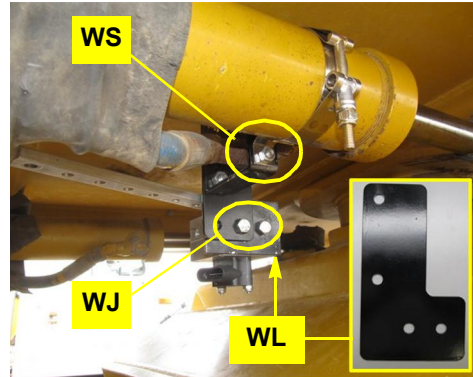

Figure 2b: WAS bracket (second) and WAS assembly installed
- b. Using hardware **WS** mount bracket **WL**—like a forward pointing ‘L’—on **WK** (Figure 2b).
Using hardware **WJ**, mount the WAS assembly—arm downward and rearward—on bracket **WL** (Figure 2b).